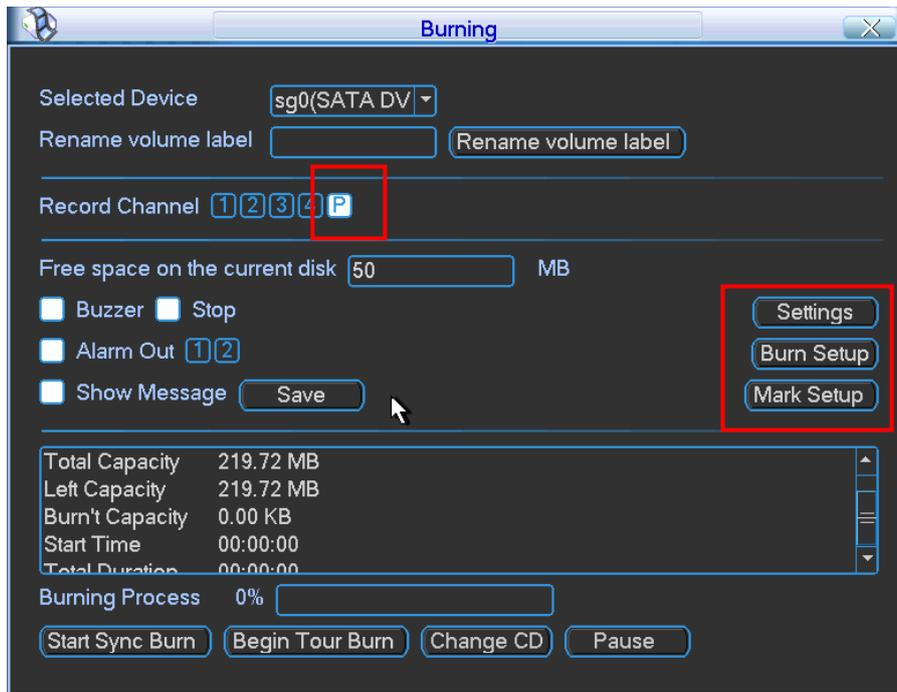

Figure 4-22
- a) One the preview interface, right click mouse and then select real-time burning. You can see an interface shown as in Figure 4-22. **Please note the record channel needs to set as P (PIP), otherwise, you can not see the three setup buttons on the right pane.**
- On the left-click mouse menu, select main menu and then click Backup button. Click Burning button, you can go to Figure 4-22 too.
d) Now you can click Start Sync burning on Figure 4-22 to begin burning.